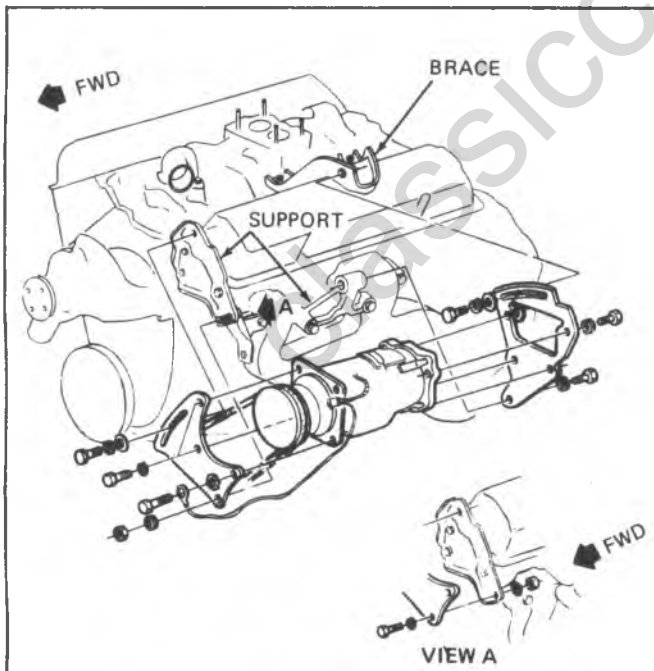

Fig. 6A4-11-A/C Compressor Mounting
6. If the vehicle is equipped with air conditioning, remove the A/C compressor rear brace (fig. 6A4-11).